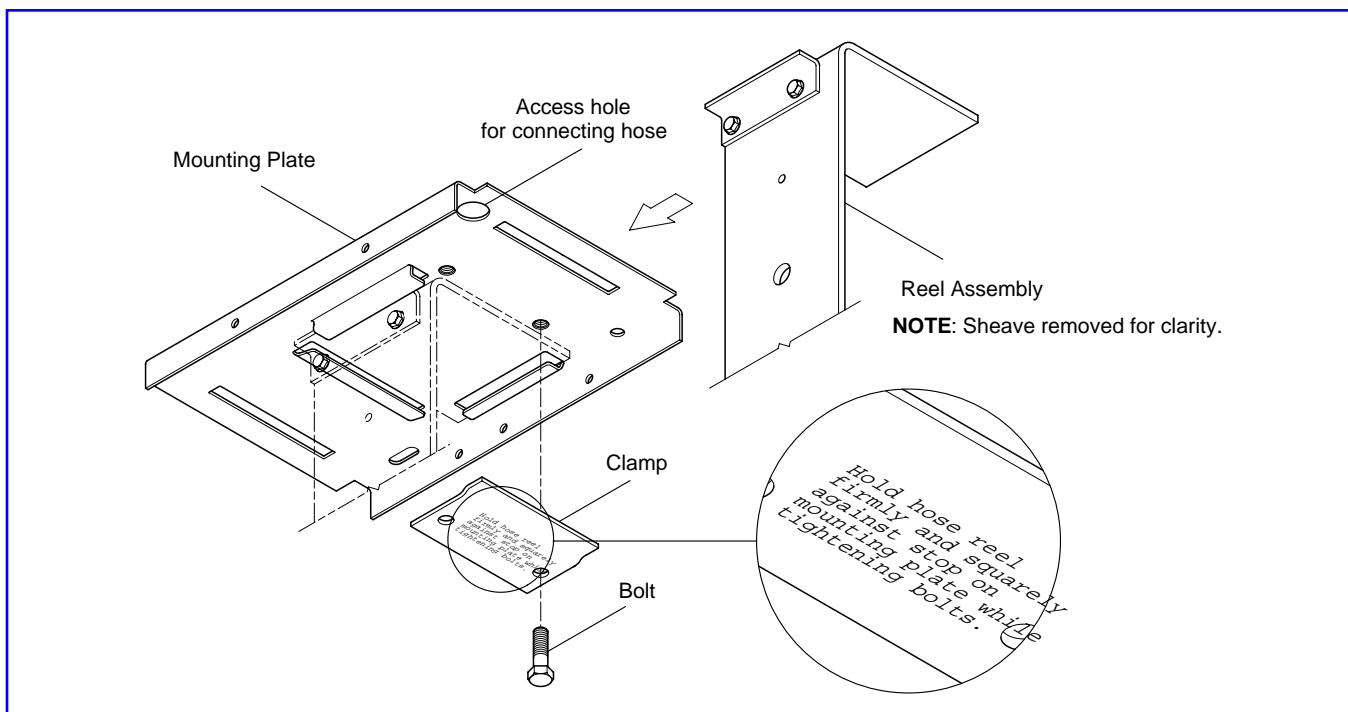

Figure 3 Reel Assembly Installation into Mounting Plate - Bottom View
1. Install Mounting Plates (2) to metal framing channels or other suitable structure (mounting hardware not included).
2. Install Screws (3) and Nuts (4) that align the Mounting Plates to each other.
4. Slide each reel assembly into the track slots of the Mounting Plate. See **Figure 3**.